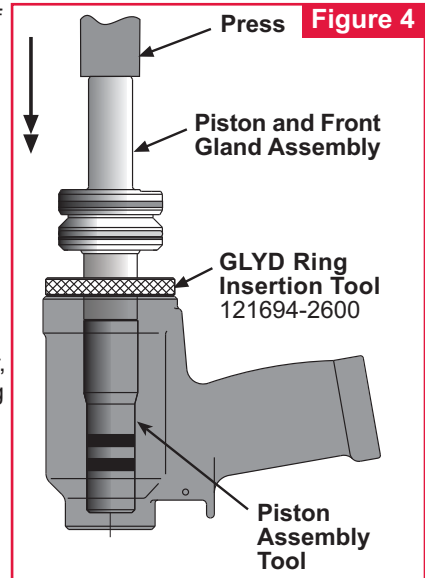

Figure 4
6. Thread 121694-2600 into back of Cylinder to prevent damage to GLYD Ring Assembly. (Fig. 4)
7. Using a press, carefully push Piston and Front Gland Assemblies into the back of Cylinder (10). (Fig. 4)